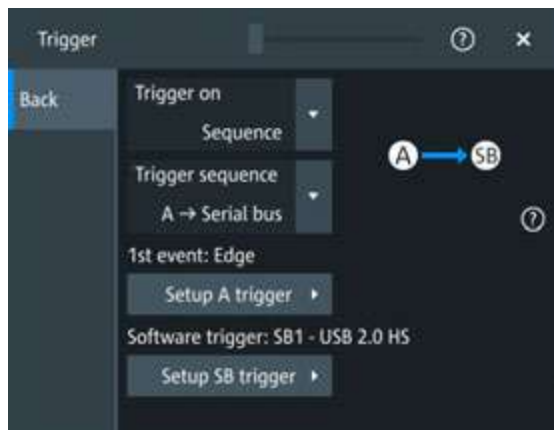

Figure 14-68: Serial bus Trigger setup dialog for USB 2.0
- In the "Trigger" tab (Figure 14-68):